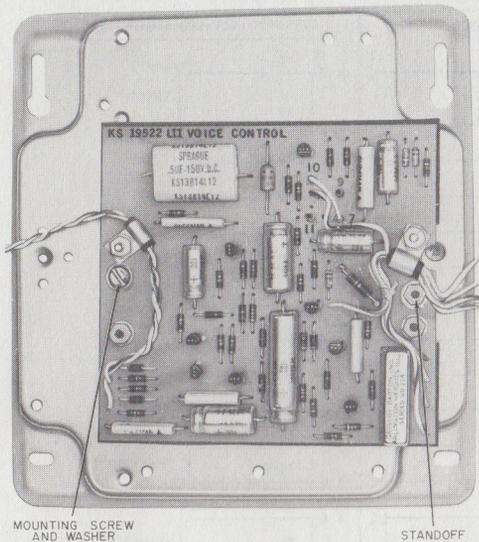

Fig. 9—KS-19522, List 11 Voice Control, Mounted on Baseplate
- (1) Disconnect customer equipment cable and commercial power from the recorder coupler.
- (2) Remove cover from recorder coupler and disconnect all external leads from terminal board. Remove recorder coupler assembly from wall and move to a suitable work area.
- (3) Remove recorder coupler wiring board assembly from baseplate by removing eight mounting screws (accessible from back of baseplate). Remove standoff (located on back of board between terminal 3 and edge of board). Retain screws and washers for reassembly.
- (4) Mount voice control on baseplate using screws, lockwashers, and standoff supplied as loose parts with unit (Fig. 9).
- (5) Reassemble recorder coupler wiring board assembly to baseplate using screws and washers retained in step (3).
- (6) Connect voice control leads in accordance with Table B. Dress leads to avoid interference with circuit components and cover.
- (7) Affix adhesive circuit label, supplied as loose part with voice control, inside cover on upper side panel. Change nameplate designation from